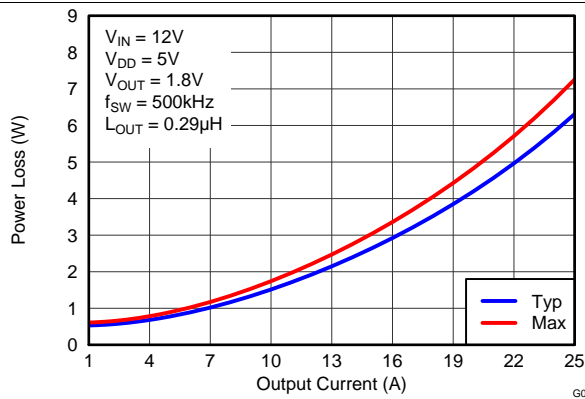
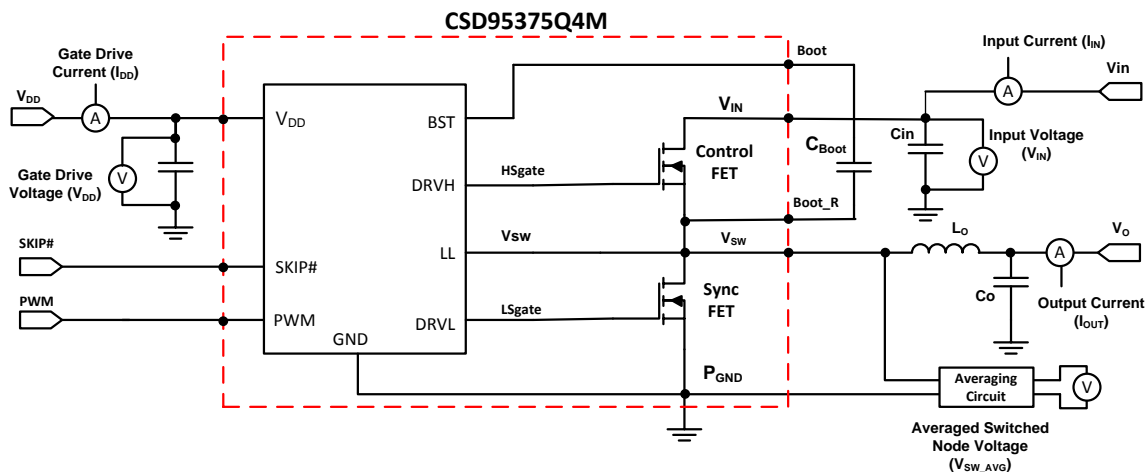

Figure 2. Power Loss vs Output Current
Figure 14. Power Loss Test Circuit
MOSFET centric parameters such as  $R_{DS(ON)}$  and  $Q_{gd}$  are primarily needed by engineers to estimate the loss generated by the devices. In an effort to simplify the design process for engineers, Texas Instruments has provided measured power loss performance curves. Figure 2 plots the power loss of the CSD95375Q4M as a function of load current. This curve is measured by configuring and running the CSD95375Q4M as it would be in the final application (see Figure 14). The measured power loss is the CSD95375Q4M device power loss which consists of both input conversion loss and gate drive loss. Equation 1 is used to generate the power loss curve.
The power loss curve in Figure 2 is measured at the maximum recommended junction temperature of  $T_j = 125^\circ\text{C}$  under isothermal test conditions.
- Typical Power Loss at 10 A = 1.5 W (Figure 2)